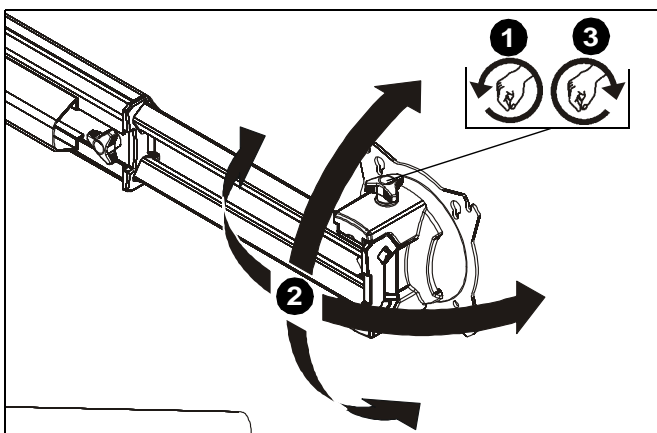

Figure 25
- Loosen knob on top of faceplate assembly. (See Figure 25)
- Adjust pitch, roll and/or yaw as desired. (See Figure 25)
- Tighten knob to secure desired faceplate position. (See Figure 25)